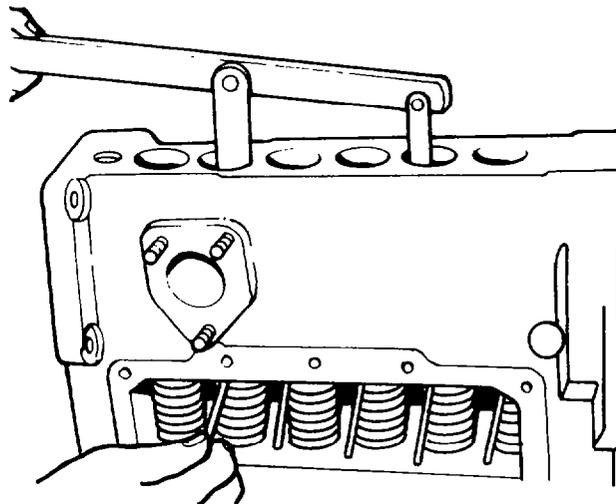

Fig. 96 — Compressing Tappet Spring
- q. Remove the service pin by relieving the plunger spring (item 25) tension as follows:
- 1 Compress the spring using tool TSE 76160D (see fig. 96).